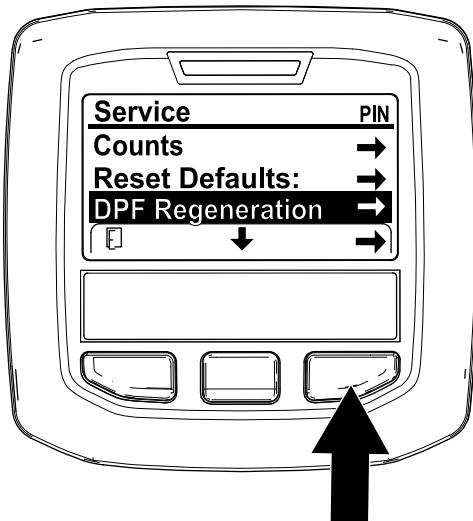

Figure 69
- Access the Service menu, press the center button to scroll down to the DPF REGENERATION option (Figure 69).
- Press the right button to select the DPF Regeneration entry (Figure 69).